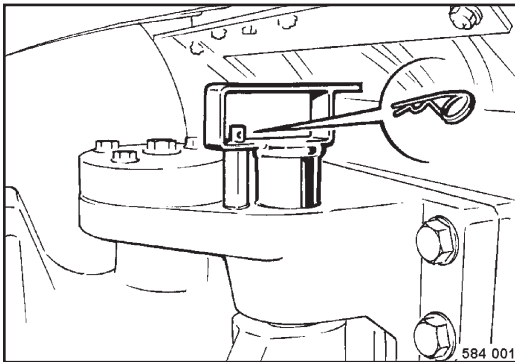

Fig. 75
- Pull the spring pin (Fig. 75) out.